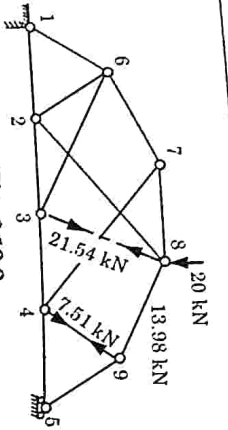

Fig. 2.13.2.
- The modified truss shown in Fig. 2.13.2 is created by removing member 3-9, adding the substitute member 3-8, and applying the 20 kN load.